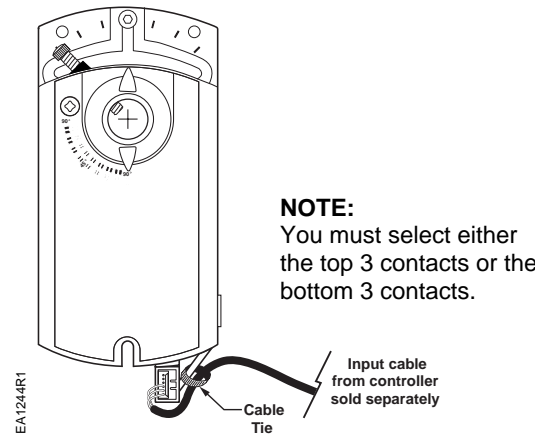
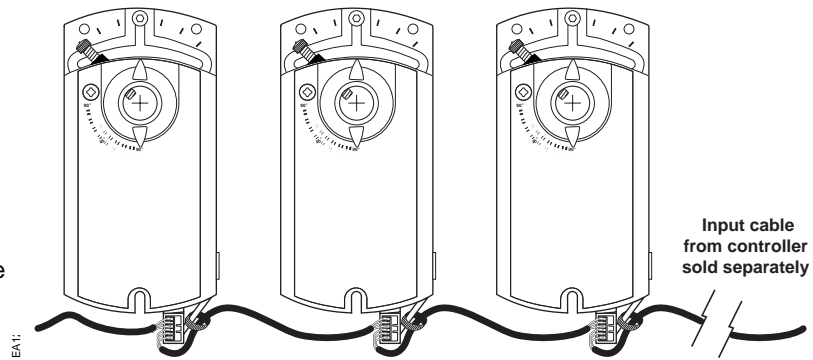

Figure 29. Input Cable Installed in Bottom Three Contacts.
Figure 30.
The input cable (purchased separately) brings power and a control signal to the first actuator in a daisy chain configuration. See Figure 29 and Figure 30.
2. Secure the cabling to the actuator bracket with a cable tie. (See Figure 29.)